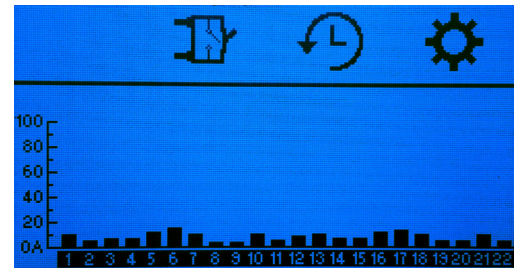

Figure 4. Bar Graph Home Screen - HDN Single Input
2. Bar graphs showing the total load of all 22 breaker channels. Breakers which are inventoried will be shaded on the bottom of the display (see Figure 4).